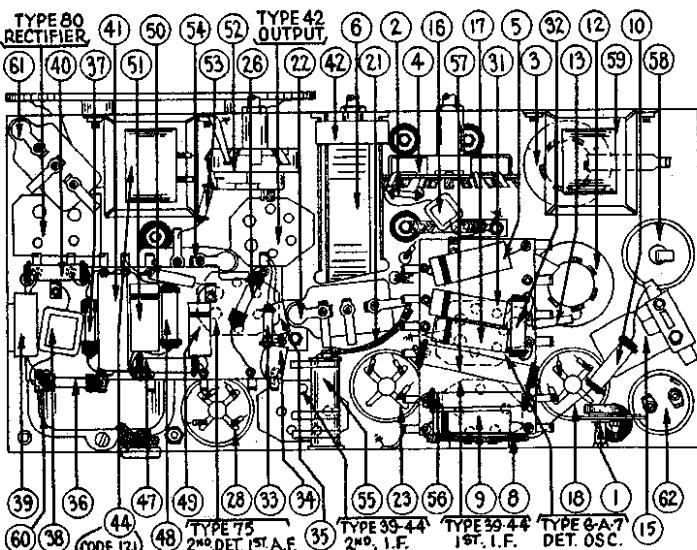

Fig. 4—Bottom View Showing Parts
ADJUSTMENT OF THE WAVE TRAP—Replace the grid clip upon the Detector-Oscillator tube (Type 6A7). Connect the output leads from the signal generator directly to the antenna and ground terminals of the receiver. Set the Wave-Band Switch of the receiver to the standard broadcast band (left hand position) and the Station Selector at the low frequency (540 K.C.) end. Adjust the Wave Trap condenser to give MINIMUM response to a 460 K.C. signal from the signal generator. The Wave Trap ① is located at rear and underneath the chassis, and is shown in Figure 4. It is reached from the rear of the chassis, by inserting the fibre wrench thru the hole near right-hand rear corner of chassis.
Finally set the signal generator at 600, tune in this signal and adjust the oscillator "L. F. condenser", located underneath chassis ⑩ in Fig. 4) to maximum reading. This adjustment is reached thru the hole in top of chassis, between the two electrolytic condensers (left hand end of chassis when facing rear).
- ㉟ Does not appear in Fig. 4.